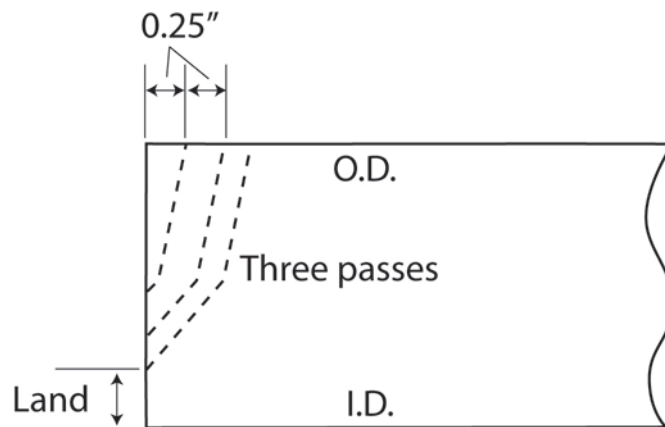

Figure 3-53. The diagram shows a compound bevel using multiple passes. Set the tool holder depth about 1/4" further back along the pipe O.D. for each pass.
- 12.** Loosen the tool holder cover screws and move the tool holder forward to the desired cutting depth along the side of the pipe. Typically, about 1/4" per pass is appropriate; multiple passes are usually required, as shown in Figure 3-53.